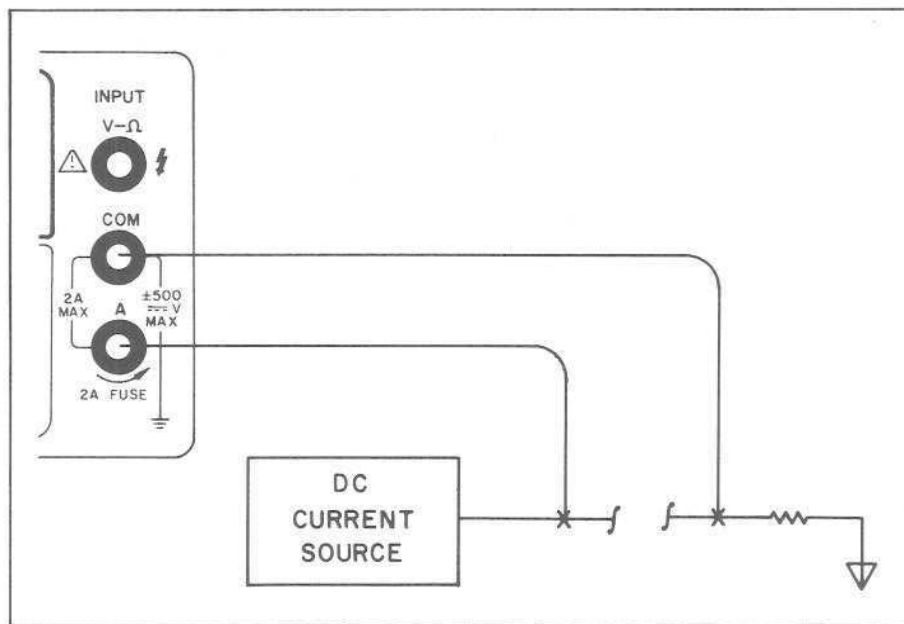

Figure 3-8. DC Current Measurements.
- c. Connect test leads from the Multimeter A and COM terminals in series with the current under test as shown in Figure 3-8.